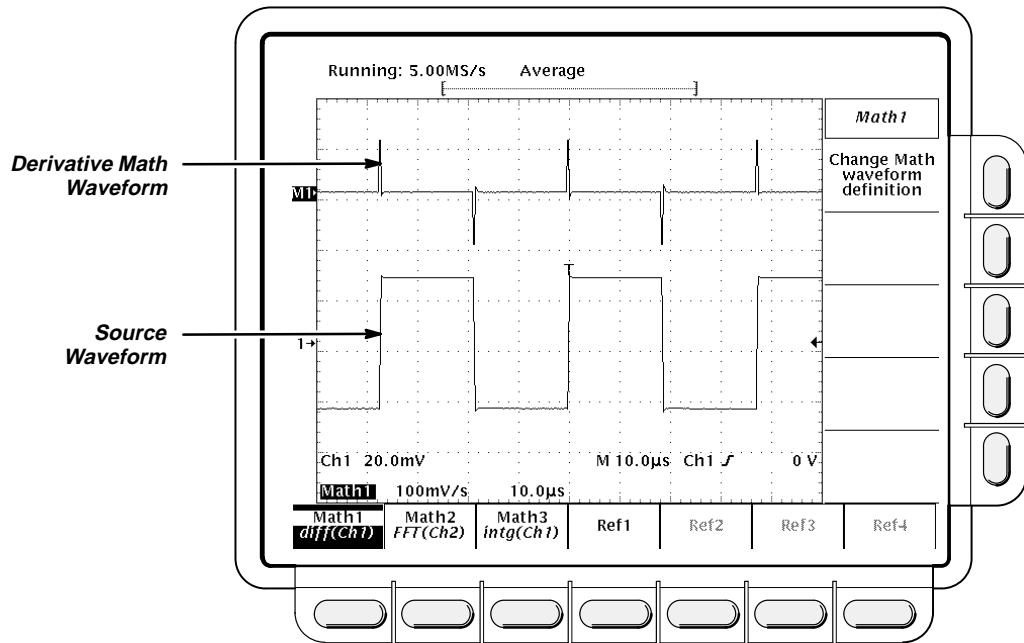

Figure 3-80: Derivative Math Waveform
- Expand the waveform horizontally on screen. (Select the source channel and increase the horizontal scale using the horizontal **SCALE** knob.) For instance, if you display the source waveform illustrated in Figure 3-80 on page 3-151 so its rising and falling edges are displayed over more horizontal divisions, the amplitude of the corresponding derivative pulse will decrease.